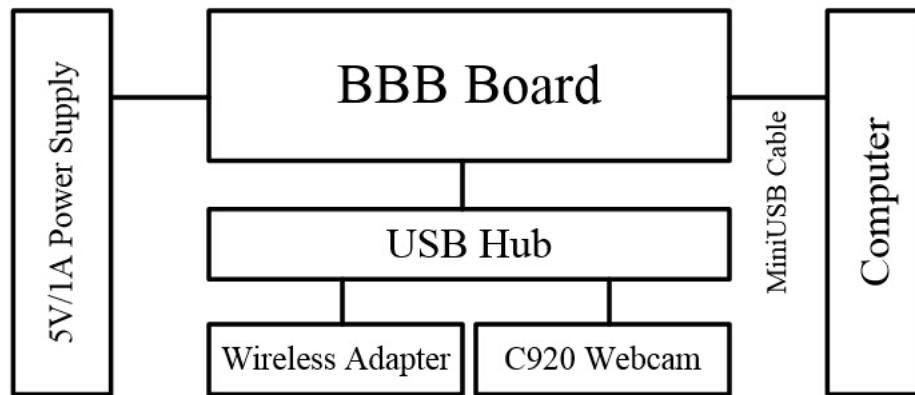

Fig. 1. Block diagram of hardware description.
- A mini SD card and its corresponding USB portable card reader. The detailed connection information of all hardware cables and devices is provided in both Fig. 1, for block diagram view, and Fig. ?? for real view.